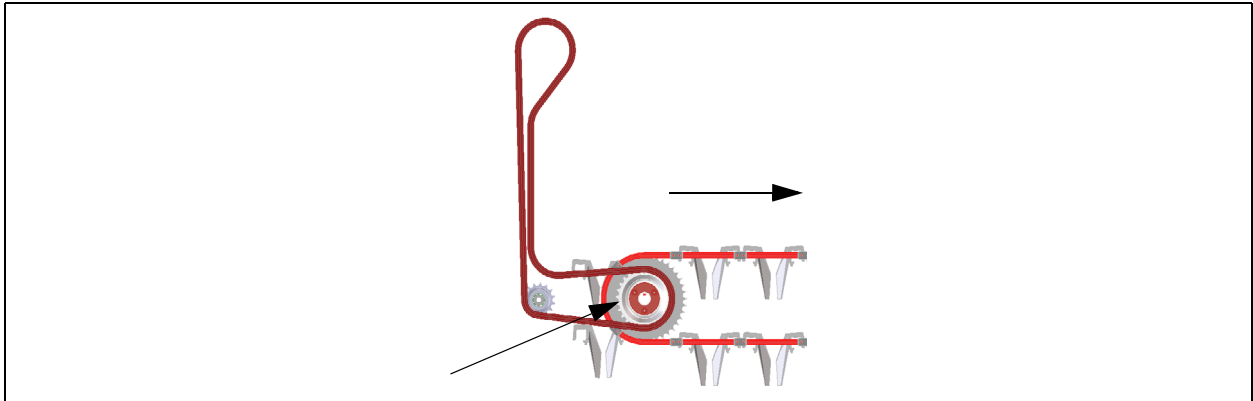
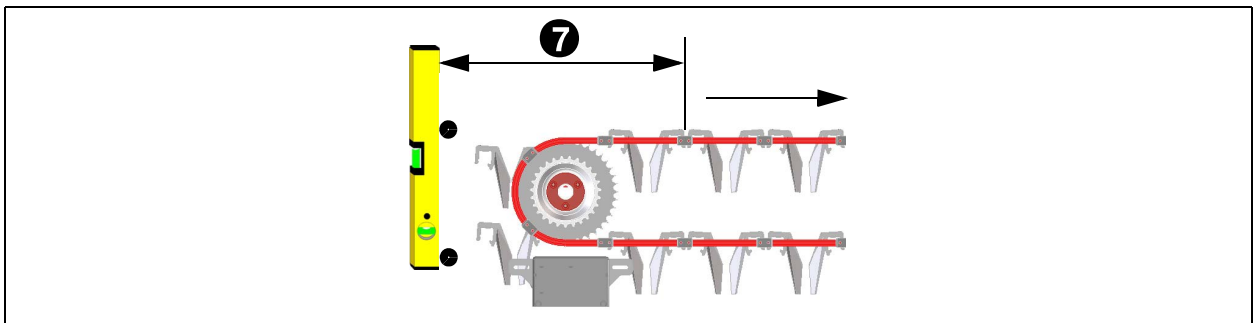

Fig. 173 - Adjusting the buffer conveyor with the chain-wheel
Fig. 174 - Adjustment of the buffer conveyor block timing
1. Turn the central shaft by hand until the sensor (2) of the buffer index is just activated, see paragraph 11.4.2.
2. Use the adjustable chain-wheel of the buffer conveyor, see fig. 173, to adjust the setting of block 1 and block 2 in accordance with fig. 174 and to the value from table 7.
4. Adjust the setting of the dimension of the following blocks in accordance with fig. 174 and to the value from table 7.
| Block     | Dimension (7)fig. 174 |